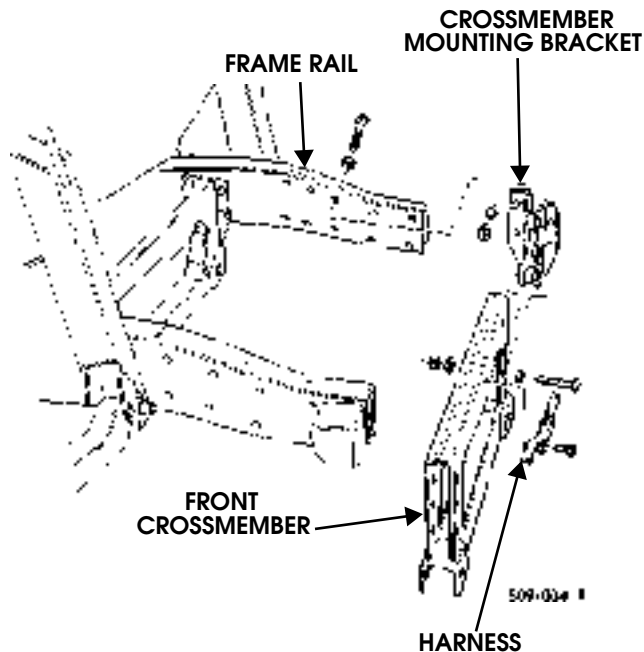

Figure 9-145: Front Crossmember Replacement
7. Remove bolt and clamp securing harness to front crossmember (Figure 9-145).
1. Position left and right crossmember mounting brackets on crossmember (Figure 9-145).